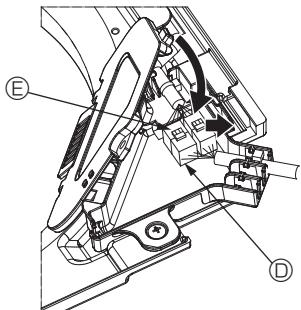

Fig. 6-10
- After placing the wires in the connector box, close the connector box cover. Make sure that the wires do not get pinched. (Fig. 6-10)